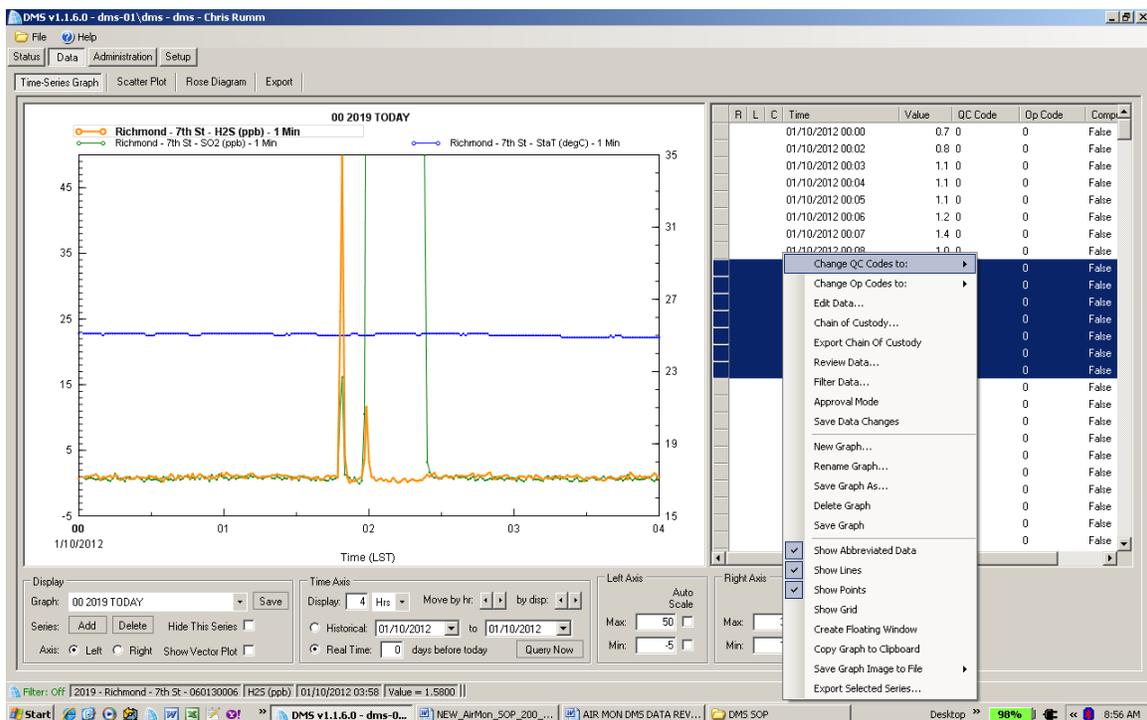

Figure 7: DMS Time Series Graph Pull-down Menu
- b. Right-click to display the pull-down menu; (Figure 7: DMS Time Series Graph Pull-down Menu)